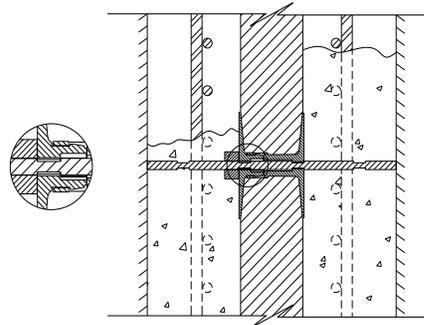
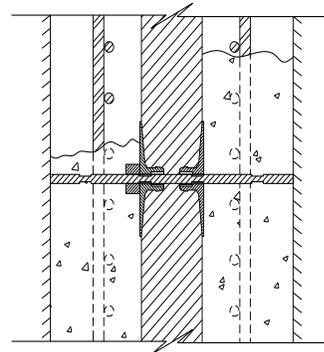

Figure 2
Figure 3
- 5) During concrete placement, use accepted practice for concrete mix design and placement procedures for thin wall sections. If multiple walls intersect, start the concrete placement at the insulated walls. Ensure that the concrete is placed on both sides of the insulation with a maximum differential head of approximately one foot (*Fig. 2*).
The System CIP repair kit comprises of two male retainer sides and one connector with polymer wing (*Fig. 3*). The pre-installed twist-lock retainers are comprised two interlocking parts; one female side and one male side (*Fig. 2*). The depth of the female part is larger than that of the male part due to the extended latches. For purposes of this repair, discard the female side. Additional male retainer sides are supplied with each box of connectors.
Please note that for the repair assembly to fit properly, the twist-lock retainers must be “locked” into the correct connector notches (*Fig. 3*).